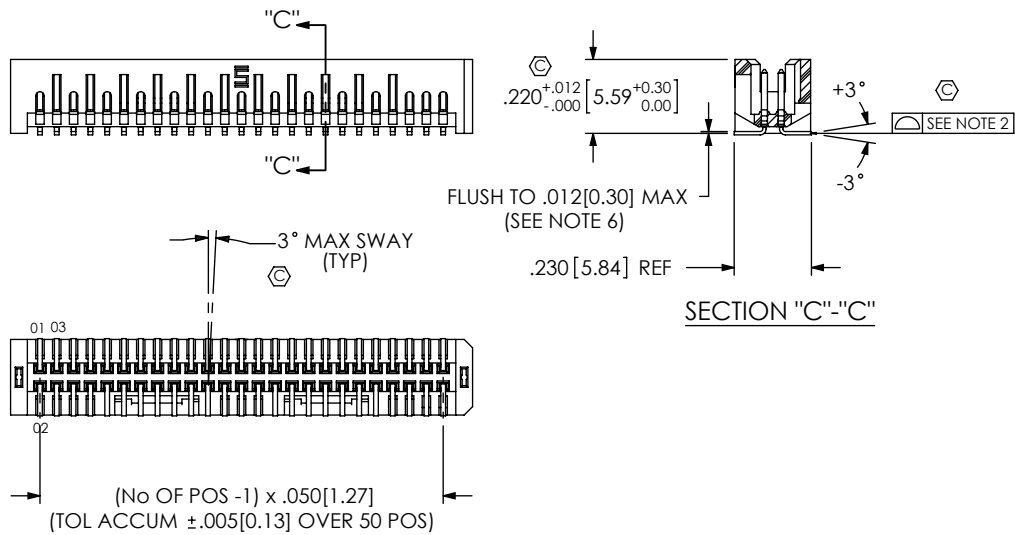

FIG 5
- P: PICK & PLACE PAD (USE PPP-72 FOR -05 & -07. USE PPP-04 FOR -10 THRU -50) (AVAIL IN ALL POSITIONS, N/A ON -RA OPTION. SEE FIG 5, SHT 2)